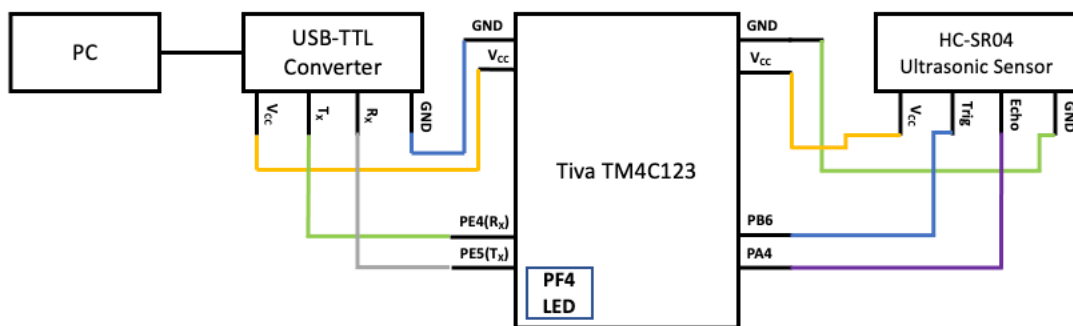

Figure-8: Experiment Setup
1.Make connections as shown in Figure-8.